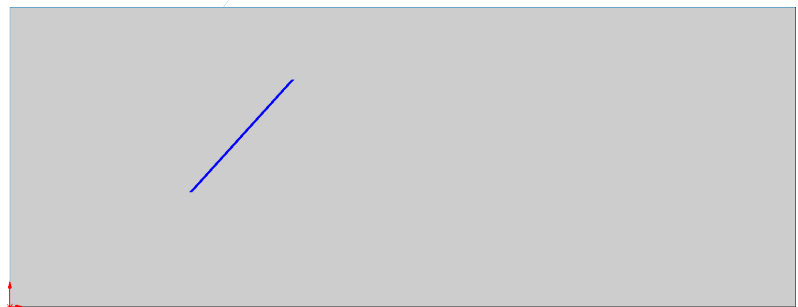

Fig. 15
Step 4. Sketch **line at angle**, **Fig. 15**.